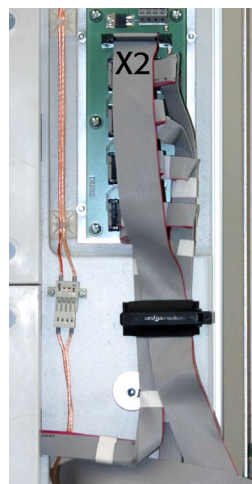

fig. 3.1-34
**Step 25:** Then connect the manifold PCBs to the control panel using the two (2) **26-stranded** flat ribbon cables. The broad flat ribbon cables are marked as "A" and "B" as well as the plug number "X2". Connect the plug of flat ribbon cable "A" to the plug "X2" of the manifold PCB at the right upper basic module (**fig. 3.1-34**). The flat ribbon cable "B" has to be laid through the prepared hole of the left upper **module (OL)** to the rear side. Then it needs to be laid through the PVC installation channel at the back and through the hole again of the right upper **module (OR)** to the front in order to be connected to the control panel. Please be aware that you need to follow these instructions only if it has not been delivered that way. Now connect the flat ribbon cable "B" to the plug "X2" of the manifold PCB at the left upper basic module.